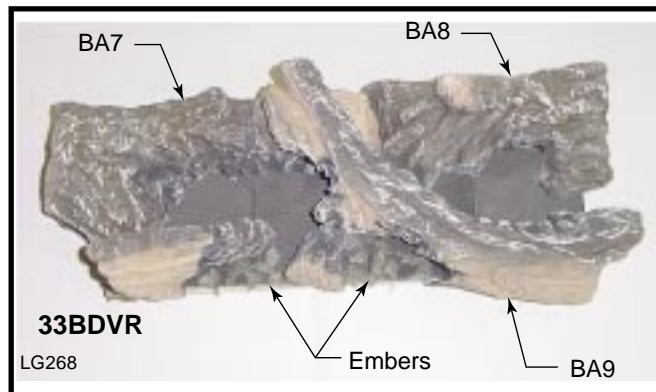

Fig. 38 33BDVR log placement.
Refer to Figure 38
6. Scatter the ember material over the front area of the burner housing assembly. (Fig. 38) Do not pack this material tightly, separate it when unpacked and keep it in a loose condition.